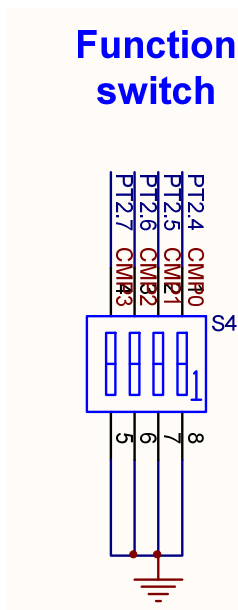

Figure 15
- ◆ S4 : Function switch pin for PT2.4~PT2.7, as shown in Figure 15.